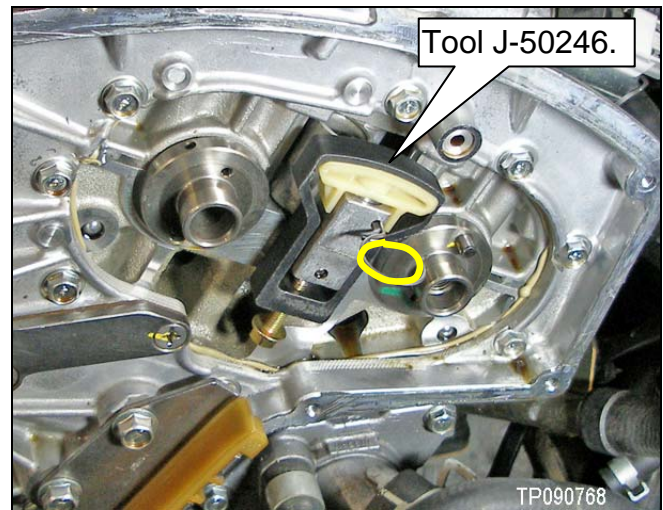

Figure 3
- Use the chain tensioner pins (pin) from Tool Kit J-50246 to hold all three (3) chain tensioner plungers. Figure 3 on Page 5 shows a pin used on B2 tensioner.
5. Install the new shoes to the tensioners with Tool J-50246 (see Figure 3).